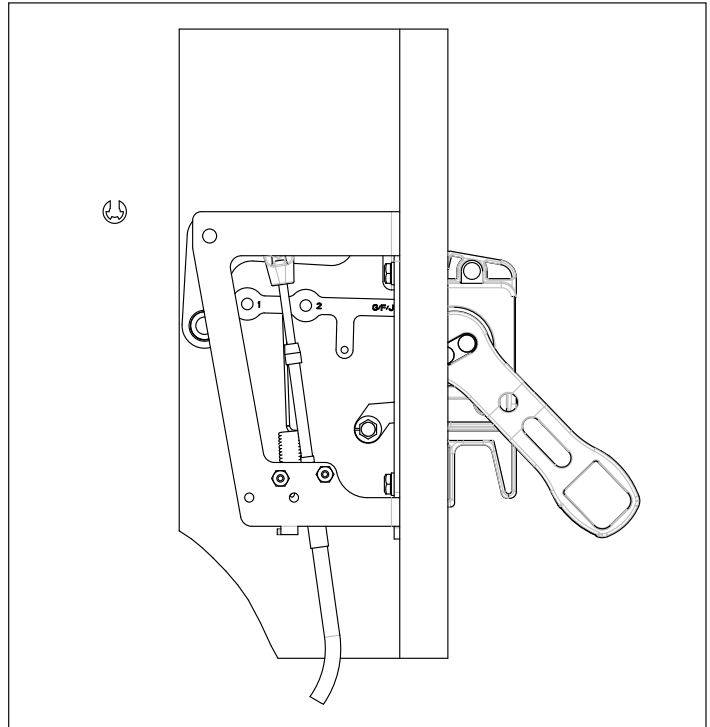

Figure 7. Assembly of adapter link to bell crank.
7. Rotate the bell crank towards the handle and rotate the outer handle to the "On" position. Align the actuator link, hole that is marked "1"; and attach it to the bell crank and secure it using an E-Ring (see Figure 7).